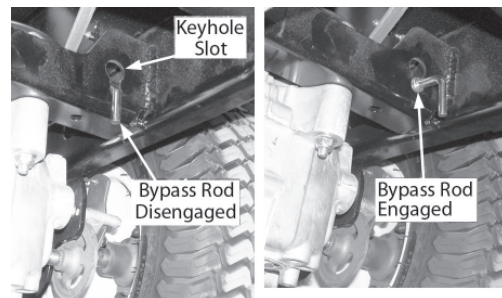

Figure 6-7
- With the flange of the rod outside (rearward) of the frame bracket, pull the rod downward in the small part of the keyhole slot so that rod's flange is locked against the back of the bracket. See Figure 6-7.